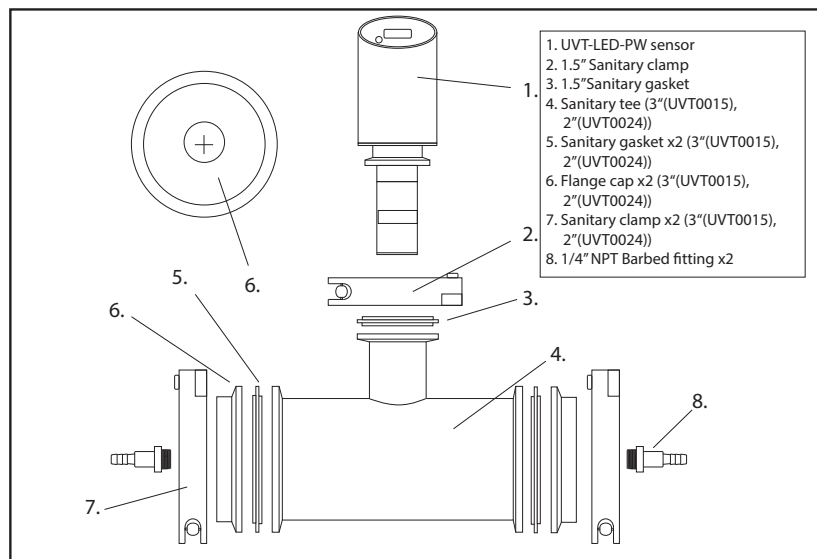

FIG. 12
C) 3" Sanitary tee kit (UVT0015) - refer to FIG. 12. 2" Sanitary tee kit (UVT0024) refer to FIG 12
D) 2" NPT PVC tee kit (UVT0023) - refer to FIG. 12